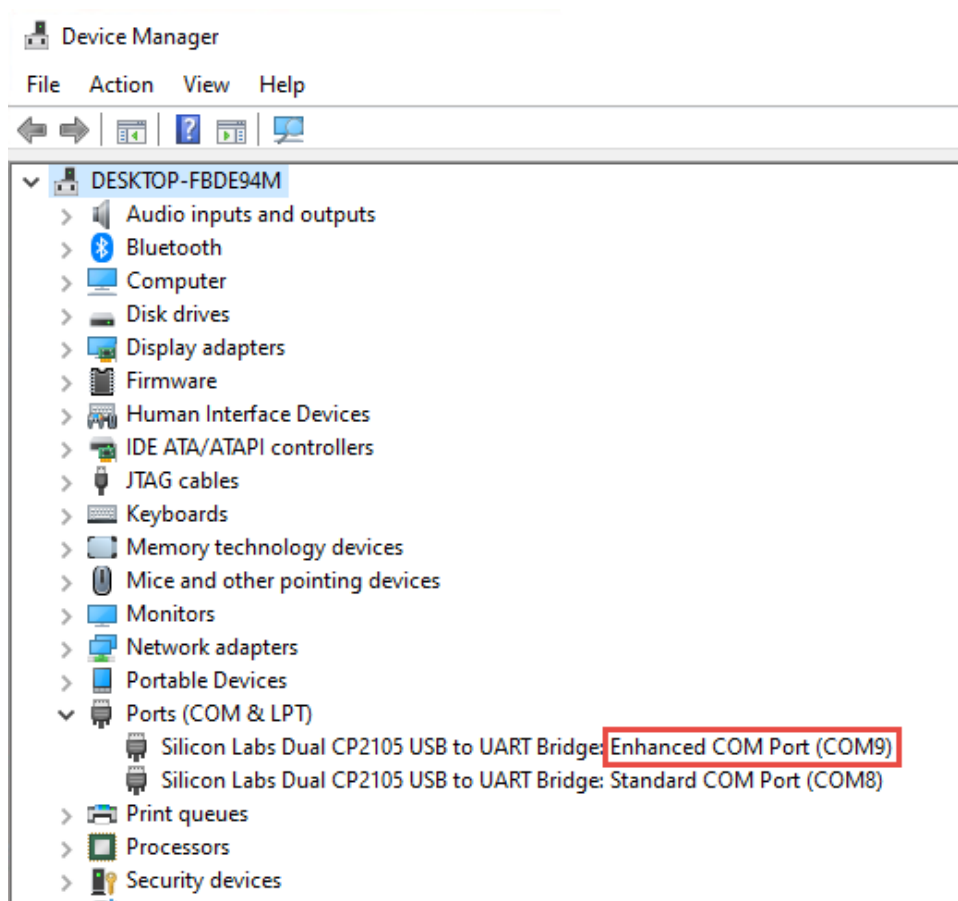

Figure 1-9 Device Manager
When the development board is connected to a computer via the USB Type-C cable, two virtual COM ports will appear in the computer's Device Manager. Open the "Device Manager" on your Windows PC and check the "Ports (COM & LPT)" tab to find them: (see **Figure 1-9**).
1. See **Figure 1-9**, the COM number of this Host is COM9. *Note that the "COM9" on the Serial Line column needs to be modified according to the actual com port on the user's computer.*